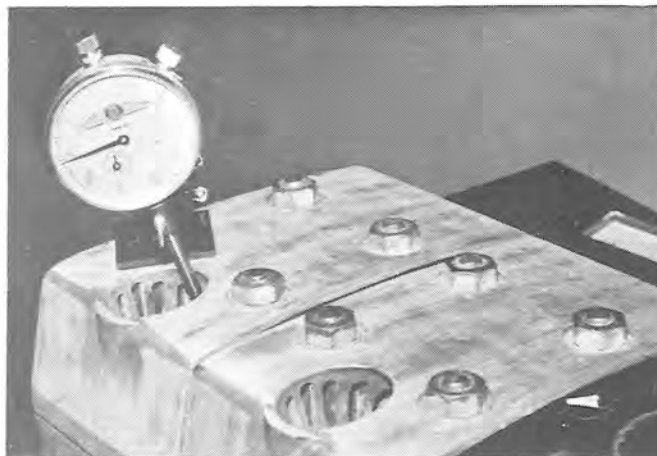

FIG. 1-61
- A. Install the dial indicator assembly into spark plug hole of No. 1 cylinder (P.T.O. side). See Fig. 1-61.